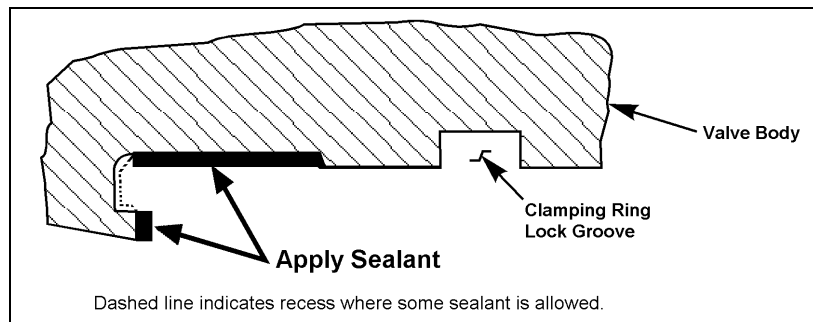

Figure 5 – Sanding the Clamping Ring
- a. Immediately before installing the seat (5 minutes maximum), apply a uniform coating approximately .010" to .015" thick of silicone sealant to the seat groove as shown in Figure 5.